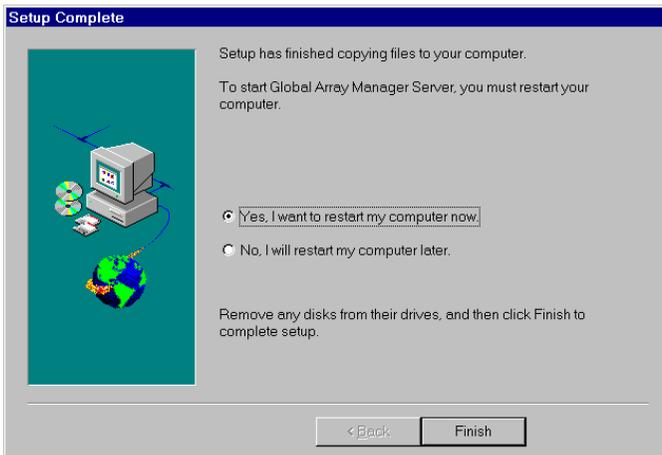

Figure 3-24. After Installation...
12. After a successful installation, the Setup Complete dialog box of the installation program is displayed (Figure 3-24).